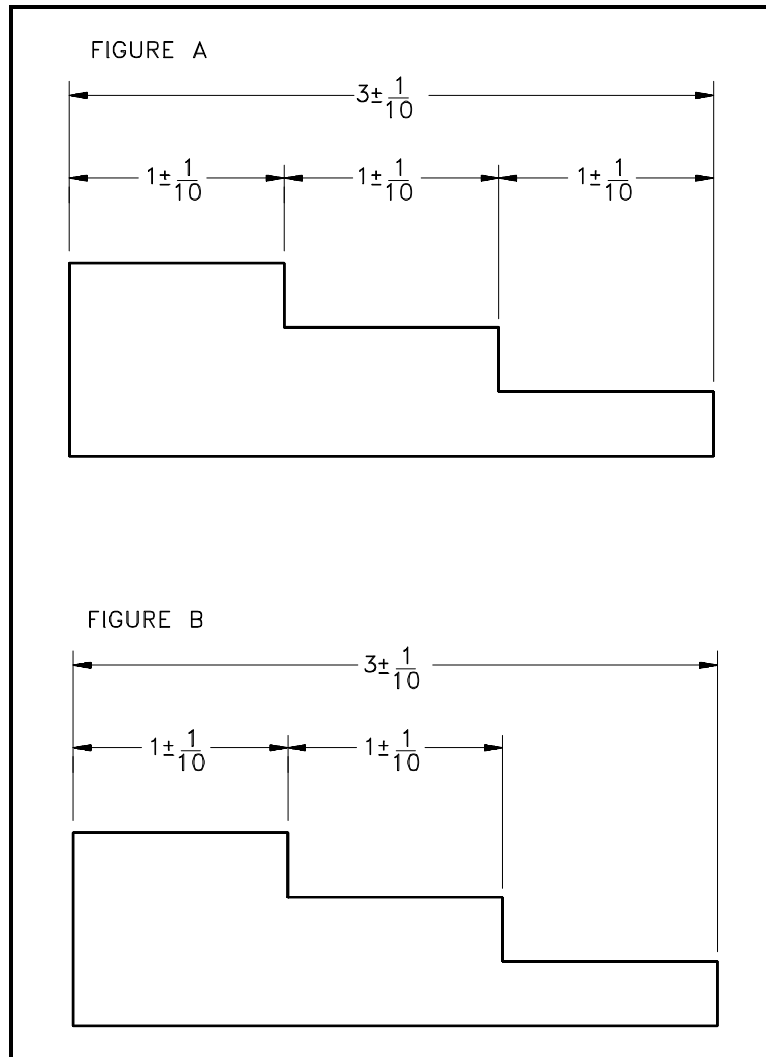

Figure 8 Example of Tolerancing
Because tolerances allow a part or the placement of a part or feature to vary or have a range, all of an object's dimensions can not be specified. This allows the unspecified, and therefor non-toleranced, dimension to absorb the errors in the critical dimensions. As illustrated in Figure 8 (A) for example, all of the internal dimensions plus each dimension's maximum tolerance adds up to more than the specified overall dimension and its maximum tolerance. In this case the length of each step plus its maximum tolerance is  $1 \frac{1}{10}$  inches, for a maximum object length of  $3 \frac{3}{10}$  inches. However the drawing also specifies that the total length of the object cannot exceed  $3 \frac{1}{10}$  inches. A drawing dimensioned in this manner is not correct, and one of the following changes must be made if the part is to be correctly manufactured.
To prevent this type of conflict, the designer must either specify different tolerances for each of the dimensions so that the length of each smaller dimension plus its maximum error adds up to a value within the overall dimension plus its tolerance, or leave one of the dimensions off, as illustrated in Figure 8 (B) (the preferred method).